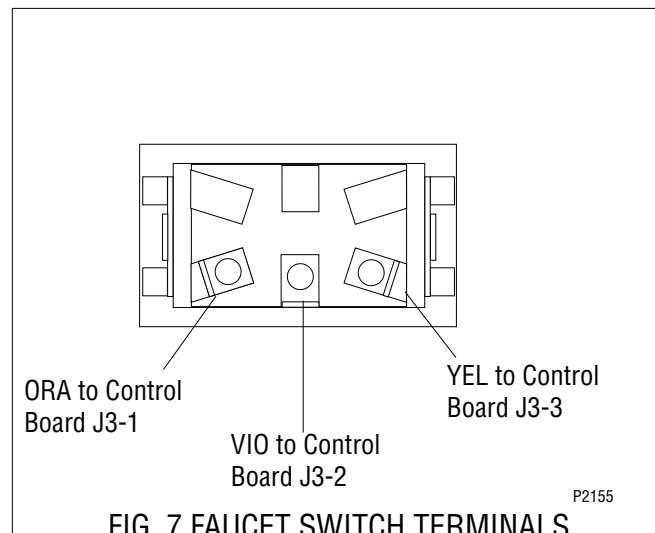

FIG. 7 FAUCET SWITCH TERMINALS
4. Refer to Fig. 7 when reconnecting the wires.